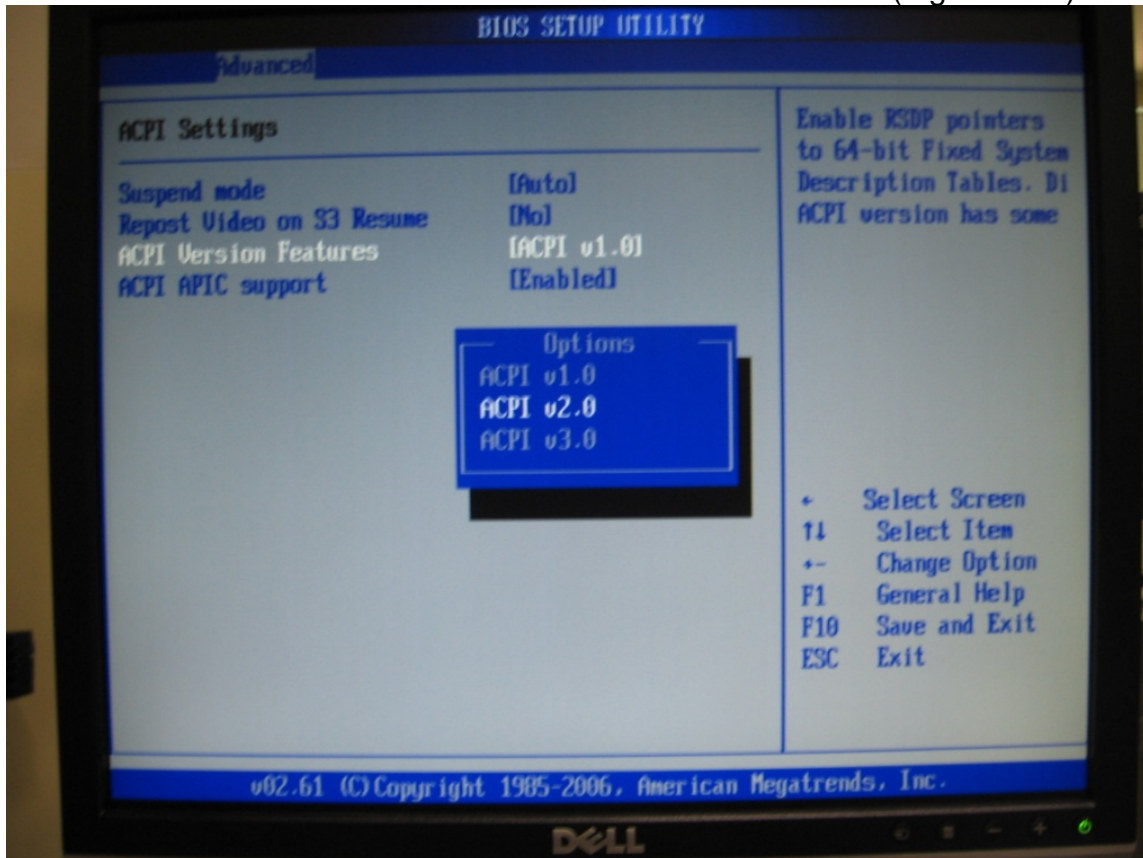

Figure 7-13 ACPI Option Screen.
3. On the **ACPI** screen drop down menu select **ACPI v2.0**, Press **Escape** to return back to the **Advanced** menu screen. (Figure 7-13).